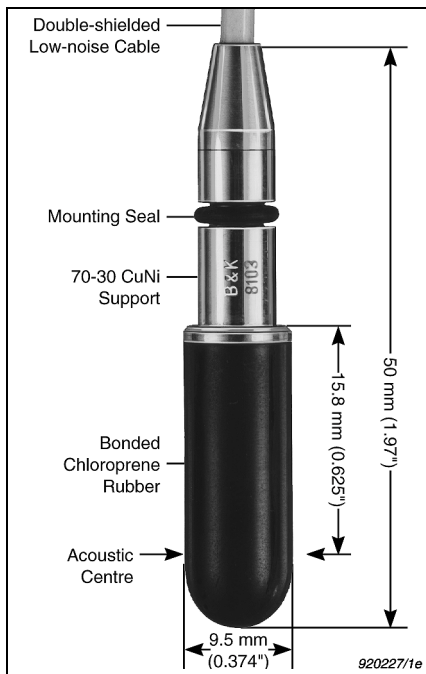

Fig. 1 Hydrophone Type 8103
**Hydrophone Type 8103.** A small-size, high-sensitivity transducer for making absolute sound measurements over the frequency range 0.1 Hz to 180 kHz with a receiving sensitivity of  $-211$  dB re  $1$  V/ $\mu$ Pa. It has a high sensitivity relative to its size and good all-round characteristics which make it generally applicable to laboratory, industrial and educational use. The 8103's high-frequency response is especially valuable when making acoustic investigations of marine animals and in the measurement of the pressure-distribution patterns in ultrasonic-cleaning baths. It is also useful for cavitation measurements. Fig. 1 indicates the major features of the 8103.